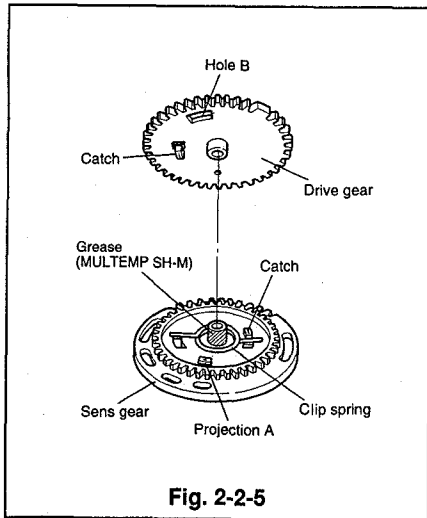

Fig. 2-2-5
- ② Apply the grease (MULTEMP SH-M)[859D055O60] to the area shown in Fig. 2-2-5 of the new sens gear.
- ④ Place the clip spring on the drive gear hooking one end under the catch as shown in Fig. 2-2-5. Install the sens gear on the drive gear so that hole A aligns with hole B. Hold the sens gear while turning the drive gear clockwise, in so doing engage the other end of the clip spring with the catch of the sens gear. The projection A of the sens gear must enter the hole B of the drive gear.